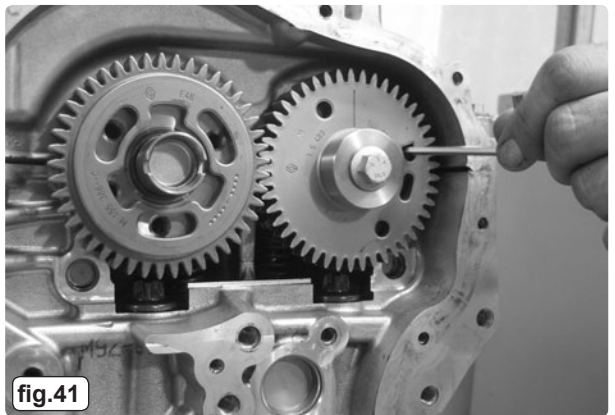

fig.41
3.6.7 Pull out the Spacer Key from the inlet camshaft gear allowing the teeth of the scissor gear to activate (fig.41).